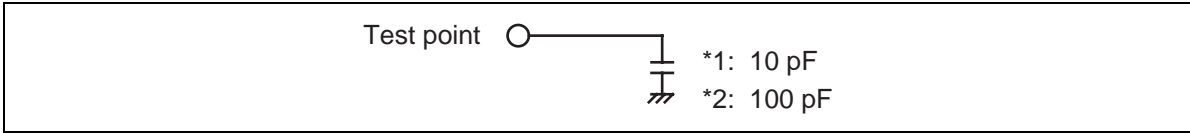

Figure 6 Load Circuit
Notes: 1. Defined by connecting the load circuit shown in figure 6.
2. Defined by connecting the load circuit shown in figure 6.